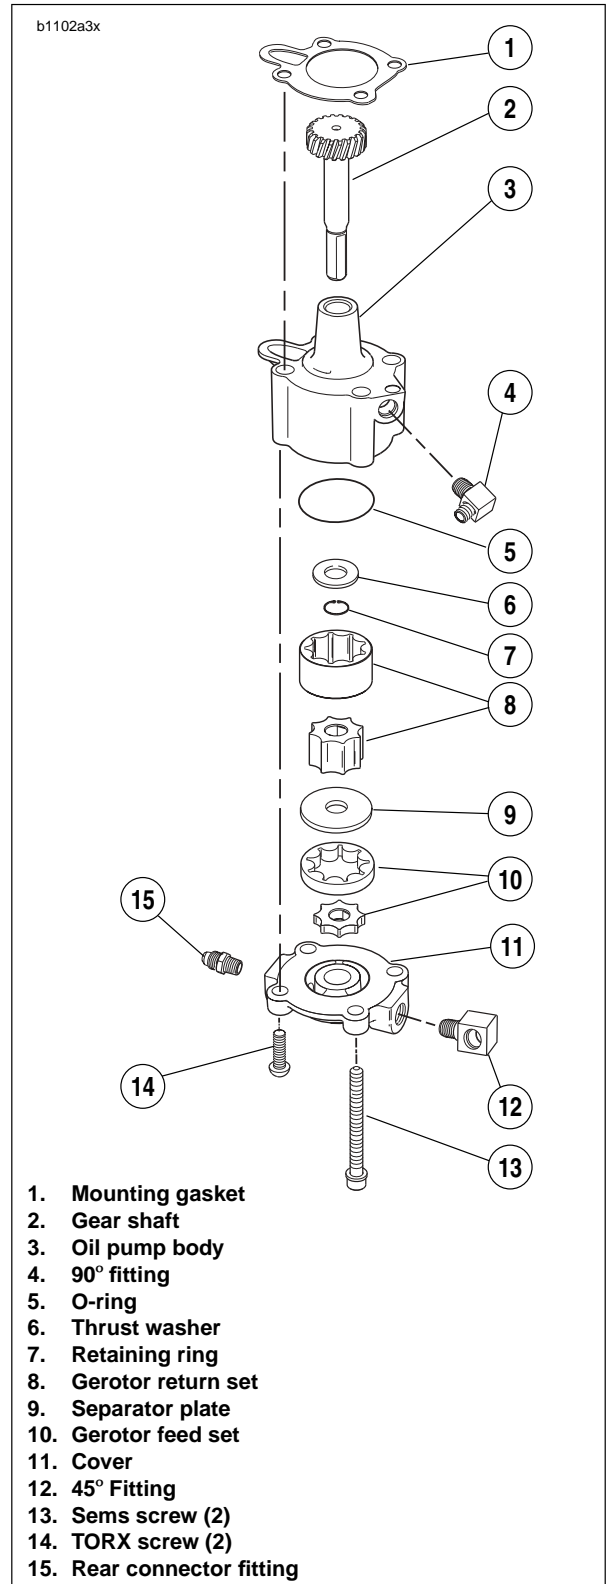

Figure 3-118. Oil Pump
See Figure 3-118. The oil pump consists of two gerotor gear sets, feed and return, housed in one pump body. The feed set distributes oil to the engine, the scavenge set returns oil to the tank/swingarm reservoir.
3. See Figure 3-118. Check gear shaft teeth for damage or wear. Replace if necessary.
1. See Figure 3-118. Install gear shaft through body. Position thrust washer over end of shaft. Install **new** retaining ring into groove in shaft.
6. See Figure 3-118. Place gerotor feed set over gear shaft.